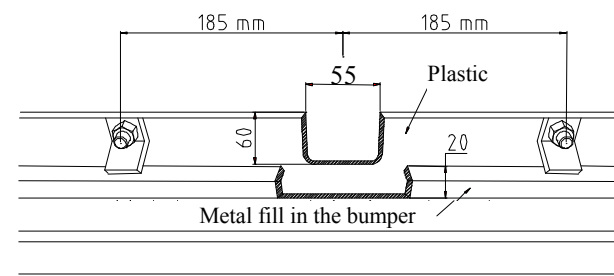

Fig. 2
3. Insert the main bar of towing hitch in the chassis and fix with M12x40mm (pos. 9) bolts in marked points (pos. A).
5. Disassemble the towing hitch an then join with the bumper after previous cut a fragment in the bumper. Look the fig. 2.
7. Apply the distance sleeve $\varnothing 17$, L=35mm (pos. 4) to the hole (pos. B) and fit with the M10x100mm (pos. 8) bolt. By the holes (pos. C) fix by M10x40mm (pos. 9) bolts and longitudinal washers (pos. 5).
8. Fix the tow-ball (pos. 2) and the socket plate (pos. 3) using bolts M12x75mm (pos. 6) and M12x70mm (pos. 7).